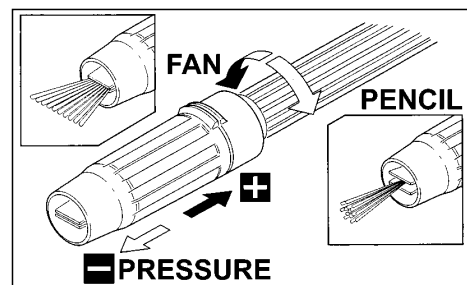

fig. 1
- The cradle on top of the motor is designed to accept a 5ltr container of fluid such as Sealey AK131 General Purpose Detergent or Sealey AK133 Traffic Film Remover. Remove the container cap and insert the clear detergent pipe so that the filter on the end of the pipe is at the bottom of the container and completely submerged in the fluid. Where the clear pipe is attached to the washer you will find a red knob which controls the water/detergent mix. When turned fully clockwise no detergent is dispensed. As you turn the control anticlockwise the fluid is progressively introduced. The lance nozzle must be set to the low ( - ) pressure position when using detergent. ( See fig.1.)
- The nozzle must be set to the low ( - ) pressure position when using detergent. ( See fig.1.) Grip the gun firmly to counteract the recoil of the water jet and aim at the working surface. On vertical surfaces work from the bottom upwards. Apply the detergent mix to the working surface and leave the detergent to act for 1 to 2 minutes, but do not let the surface dry out. Turn the detergent control fully clockwise to shut off the detergent flow and rinse the surface with clean water at high pressure using the fan spray. For stubborn deposits reduce the fan to a pencil spray setting. ( See fig.1.)